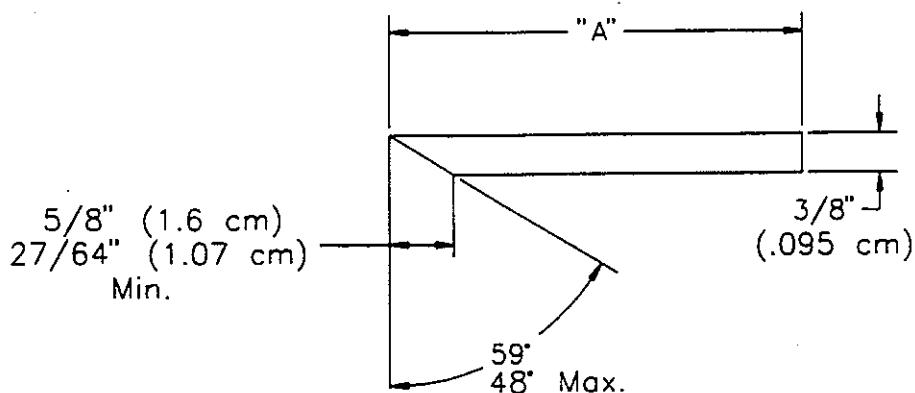

Figure 3
- f) Lay the knife on the knife shelf. Insure the knife is installed with the cutting angle edge facing down as shown in Figure 3. Install loosely the two outer, and the middle knife mounting bolts. Tighten the mounting bolts just enough to hold the knife in position while still allowing it to be removed.